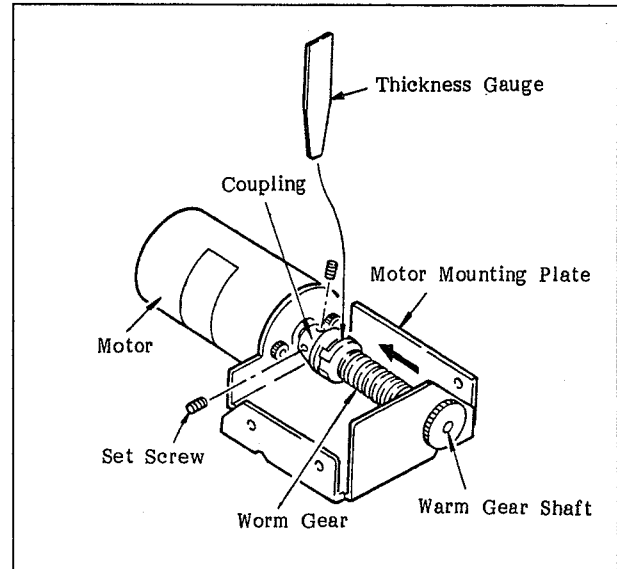

Fig. 6-24 Adjusting the Coupling
3. Insert a 0.7 mm thickness gauge in between the coupling and the worm gear as shown in Figure 6-24. Then, tighten the two set screws that hold the coupling while the worm gear and the worm gear shaft are being pressed in the direction of the arrow shown in the figure.